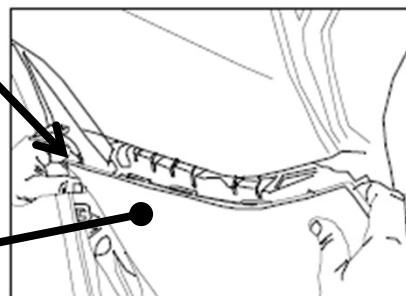

Figure 4
5. Carefully remove fascia from vehicle, starting at the rear wheel well and working the way toward the rear of the vehicle. **Note:** vehicle with sensors have additional wiring attached to the rear fascia. Disconnect the wiring at the connector attached to the end panel, carefully set the fascia cover aside. See Figure 4